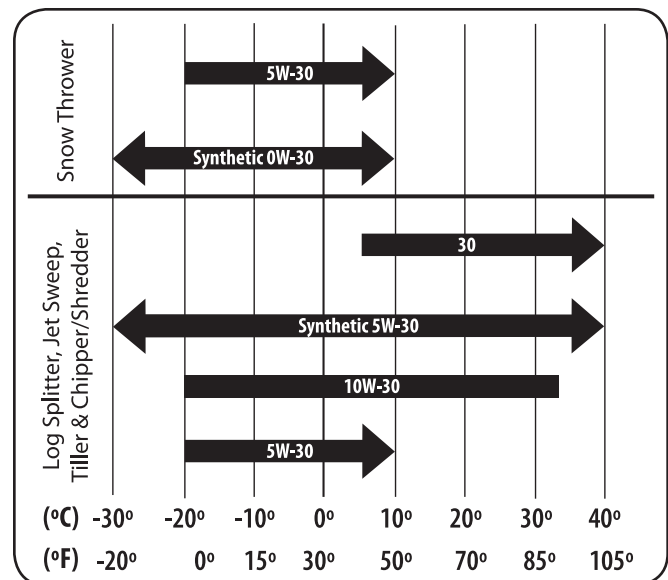

Figure 6-1
Refer to the viscosity chart (Fig. 6-1) for oil recommendations. Do not over-fill. Use a 4-stroke, or an equivalent high detergent, premium quality motor oil certified to meet or exceed U.S. automobile manufacturer's requirements for service classification of a minimum level SF or SG (higher letter ratings are acceptable such as SJ, SL and SM grades). Motor oil will display this designation on the container.
12. Fill with the recommended Oil. See Fig. 6-1.